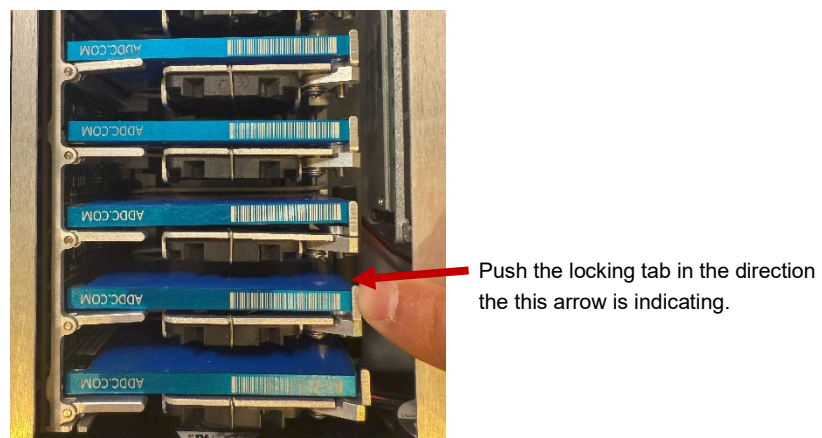

Figure 12- PC Card Locking Mechanism
- Remove 4 Phillips pan head 4-40 X ¼" screws located at the bottom of each corner of the module (see Figure 12).